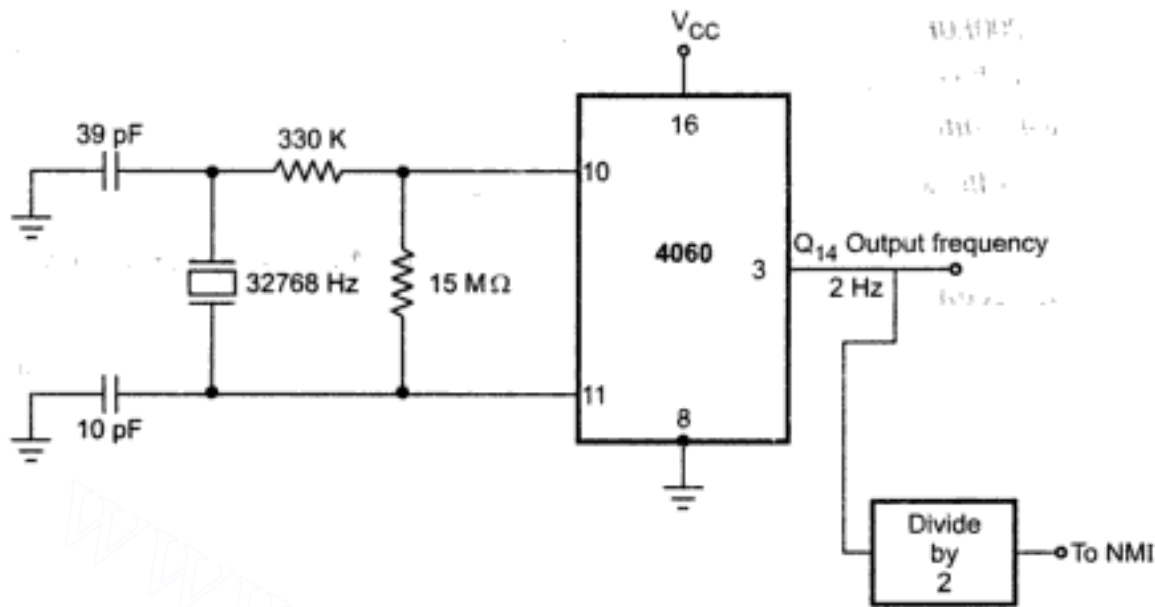

Fig. 2
**Ans. :** Please refer Fig. 2 on next page.